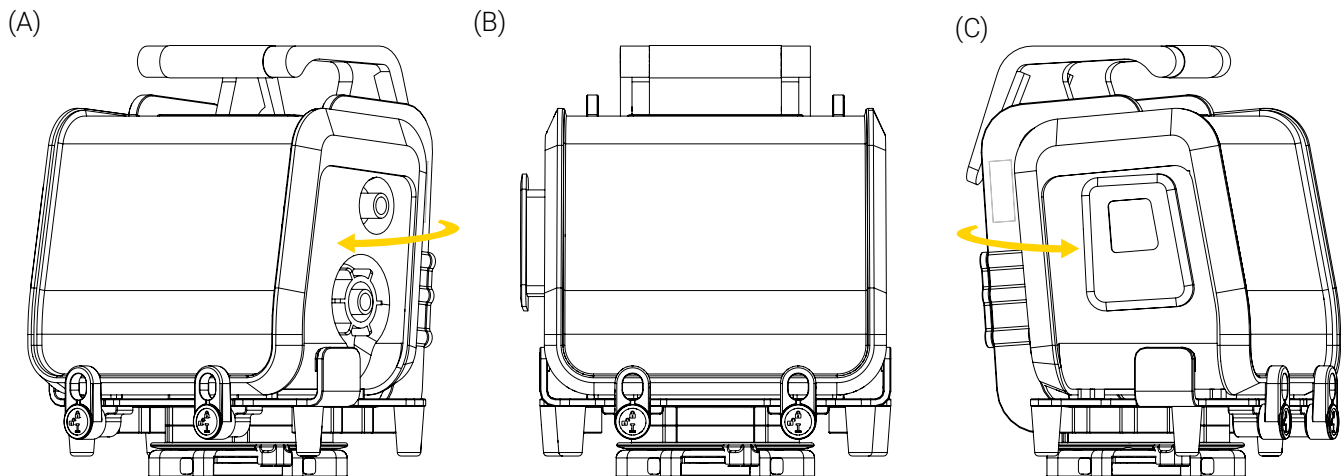

Figure 10: Rotating the mounting bracket on the Universal Mounting Base
6. Turn the bracket up to 360° clockwise or counterclockwise to the desired position (Figure 10). Refer to the mounting bracket's user documentation if needed.